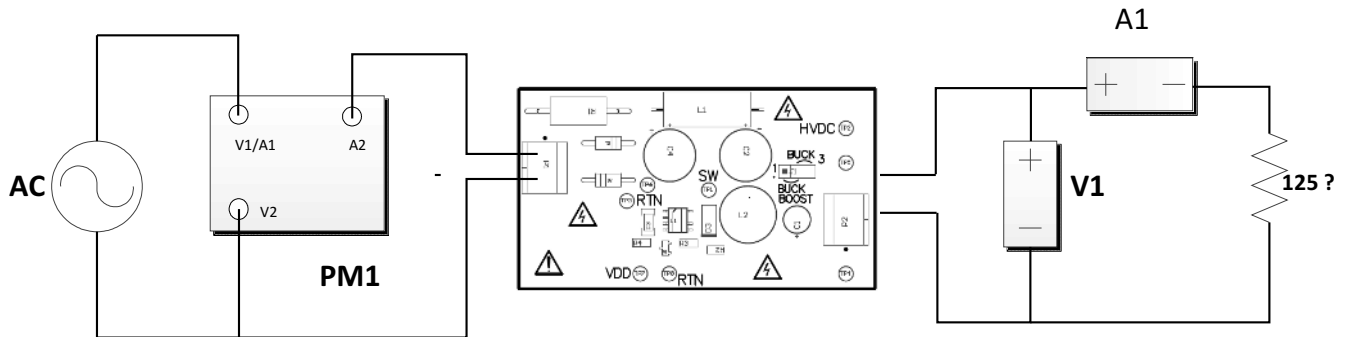

Figure 2. UCC28880EVM-615 Test Set Up
Figure 2 shows the basic test setup recommended to evaluate the UCC28880EVM-615. Applying a low DC voltage (~15 V to 20 V) into the AC input (P1). The output voltage regulates to ~12.5 V on P2 (pin 1 with respect to pin 2). Once the correct output level is obtained, increase the input voltage to desired level.
**AC Input Source:** The input source shall be an isolated variable AC source capable of supplying between  $85 V_{\text{RMS}}$  and  $265 V_{\text{RMS}}$  at no less than 5 W and connected as shown in Figure 2. For accurate efficiency calculations, a power meter (PM1) should be inserted between the AC source and the EVM. For highest accuracy, connect the voltage terminals of the power meter directly across the power source. (Connecting the voltage terminals directly to the EVM will result in a small current error. This is very significant when measuring no-load power)